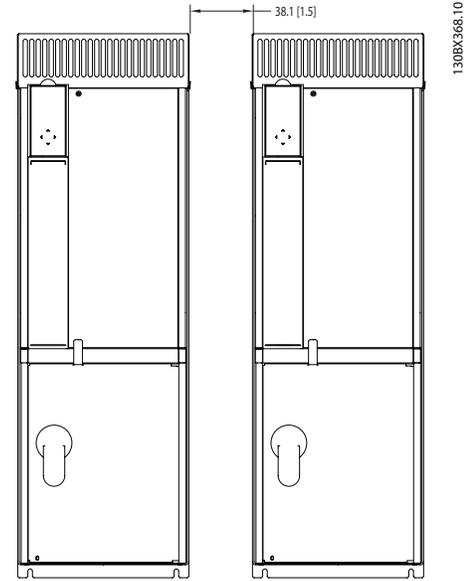

Figure 3.2 Side Cooling Clearance
- Most panels may be mounted side-by-side without additional side clearance. However, the B3, A2 and A3 frame units require 1.5 in. (38.1mm) minimum clearance between units (see Figure 3.2).